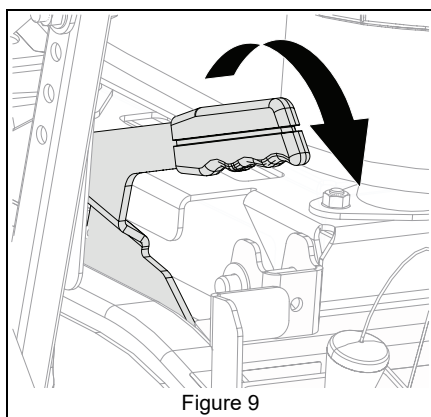

Figure 9
14. Release parking brake. See Figure 9.